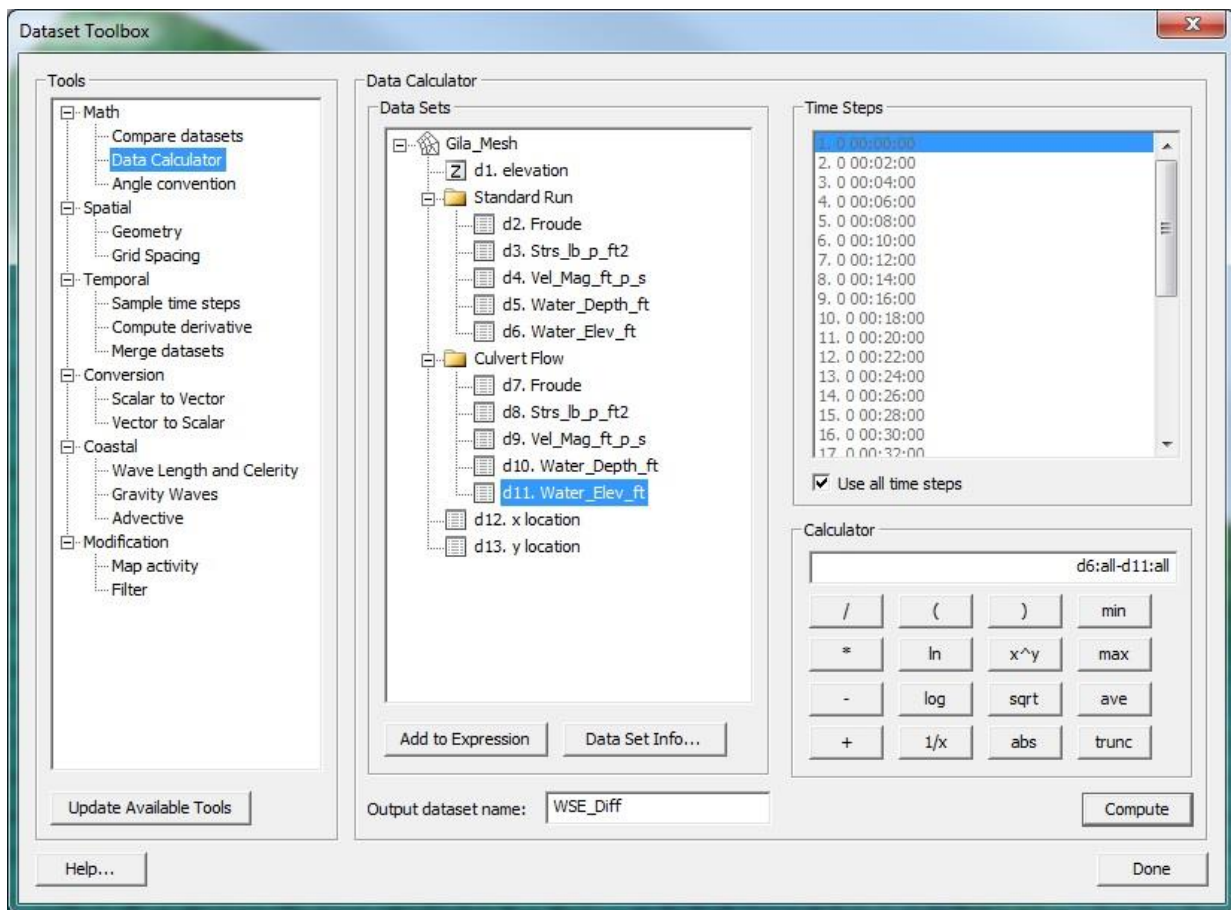

Figure 10 Data Calculator Expression
10. Specify the name of the dataset as “WSE_Diff” in the *Output dataset name* box. The window should look like Figure 10.